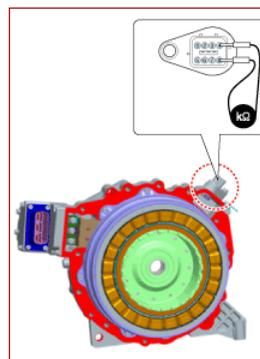

Fig. 6. (left) Motor Temperature Sensor Resistance Test
- **Motor Temperature Sensor resistance** (see Fig. 6): This test checks the resistance of the Motor temperature sensor.